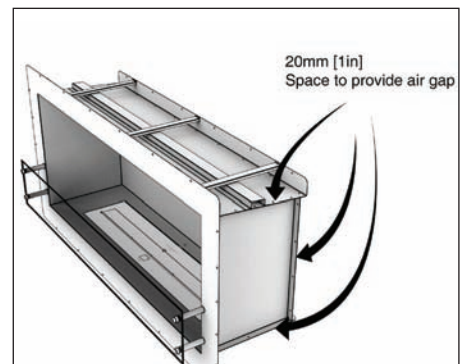

Fig. 3
- have built-in spacers of 20mm (0.8 in.) on all sides to ensure that it does not sit directly against any combustible material and an air gap is incorporated for insulation around the box construction. (Fig. 3)